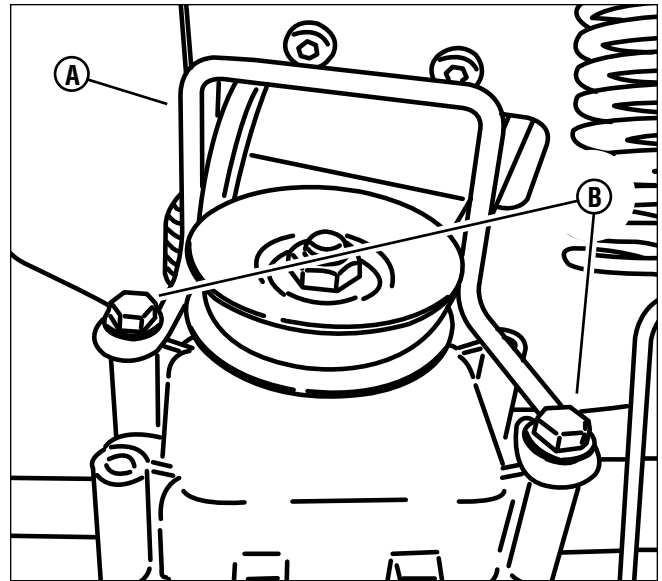

Figure 22: Removing the belt guide
- a. Remove the hardware (**B**, **Figure 22**) securing the belt guide (**A**) to the transmission assembly. Remove the belt guide.